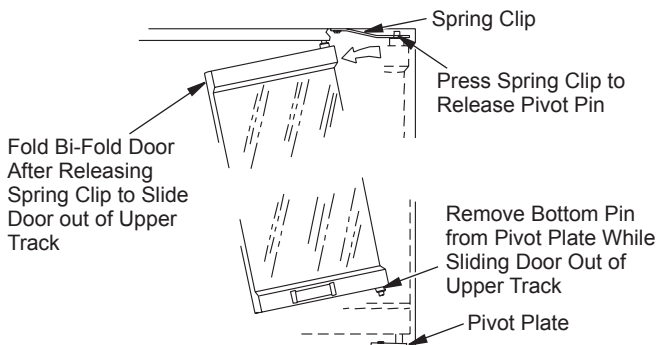

Figure 2 - Removing Glass Doors
1. Remove glass doors (if equipped) by following the instructions shown in Figure 2.
3. Reinstall front refractory panel and glass doors in reverse order shown in Figure 2, page 1.